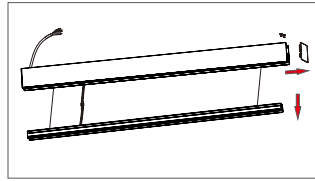

FIGURE 6-1
- I. For Start-of-Run, remove the end cap without the power cord. Remove the LED module. (Figure 6-1)